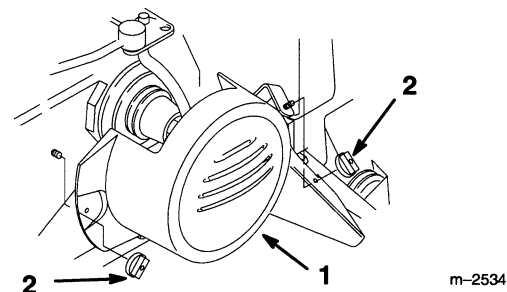

Figure 14
2. Remove the two wing nuts and belt cover from the tractor (Fig. 14).